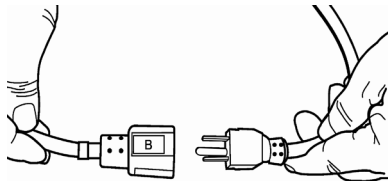

Figure 18
4. Connect electronic control box plug and blower plug together (Figure 18).
3. Connect electronic control box plug(s) and the appropriate pump and/or blower plug together (Figure 18).